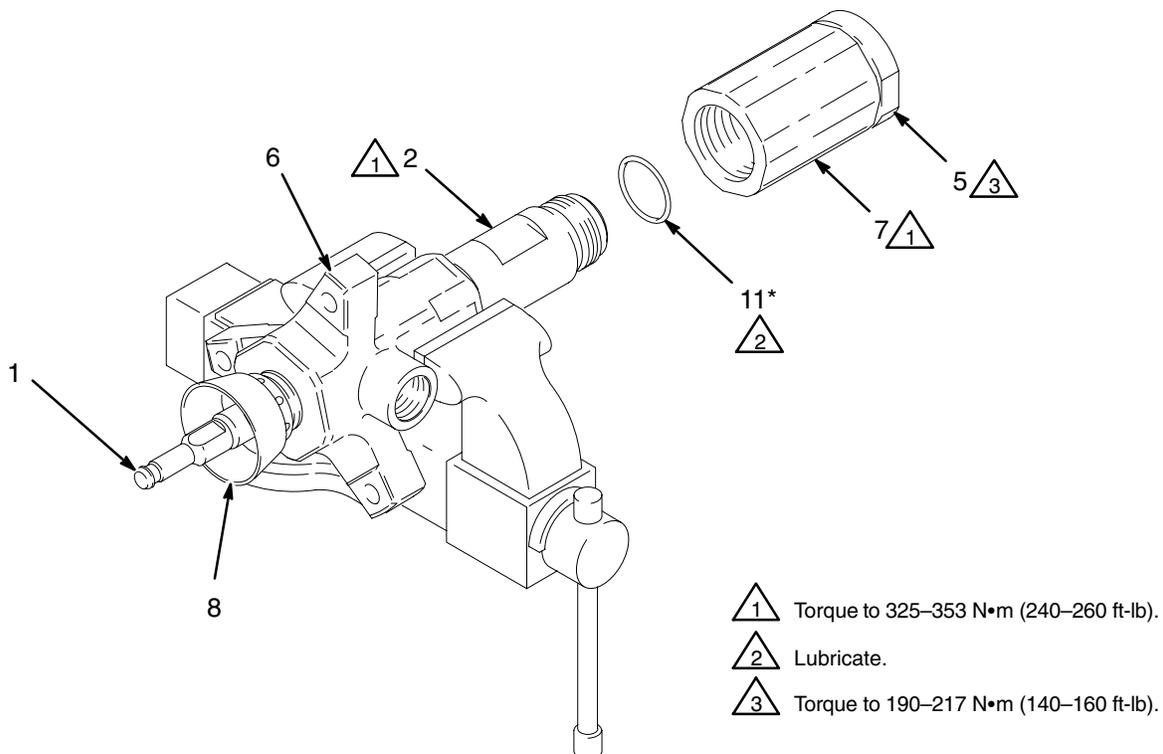

Fig. 9
5. Lubricate the threads of the packing nut (8), and loosely install it in the outlet housing (6).
6. Lubricate the piston packings. Slide the displacement rod (1) and piston assembly down into the cylinder (2). The cylinder is symmetrical, so either end may face up. Use a rubber mallet to drive the rod into the cylinder, until the piston seat housing (10) is located in the middle of the cylinder.
7. Install the seal (11\*) on the top of the cylinder (2). Lubricate the seal and the top threads of the cylinder.
8. Place the outlet housing (6) in a vise, as shown in Fig. 9. Slide the displacement rod (1) up into the outlet housing, then screw the cylinder (2) into the outlet housing handtight. The threads will engage easily until the seal (11\*) contacts the sealing surface of the outlet housing. The top of the rod will protrude from the packing nut (8).
11. Install the seal (11\*) on the bottom of the cylinder (2). See Fig. 9. Lubricate the seal and the threads of the cylinder. Screw the intake housing (7) onto the cylinder handtight. The threads will engage easily until the seal contacts the sealing surface of the intake housing.
12. Using a pipe wrench, torque the intake housing (7) to 325–353 N•m (240–260 ft-lb). This will also torque the cylinder (2) into the outlet housing (6). See Fig. 9.
13. Using a 2–3/4 in. socket or a pipe wrench, torque the intake valve (5) to 190–217 N•m (140–160 ft-lb).
14. Torque the packing nut (8) to 61–75 N•m (45–55 ft-lb).